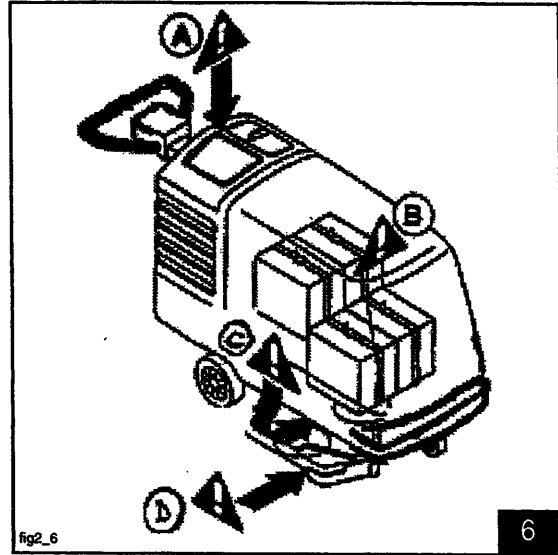

fig2\_6
Operating cycle (fig. 2)
- Cut the strapping **A** (fig. 2).
- Remove the cardboard **B** (fig. 2).